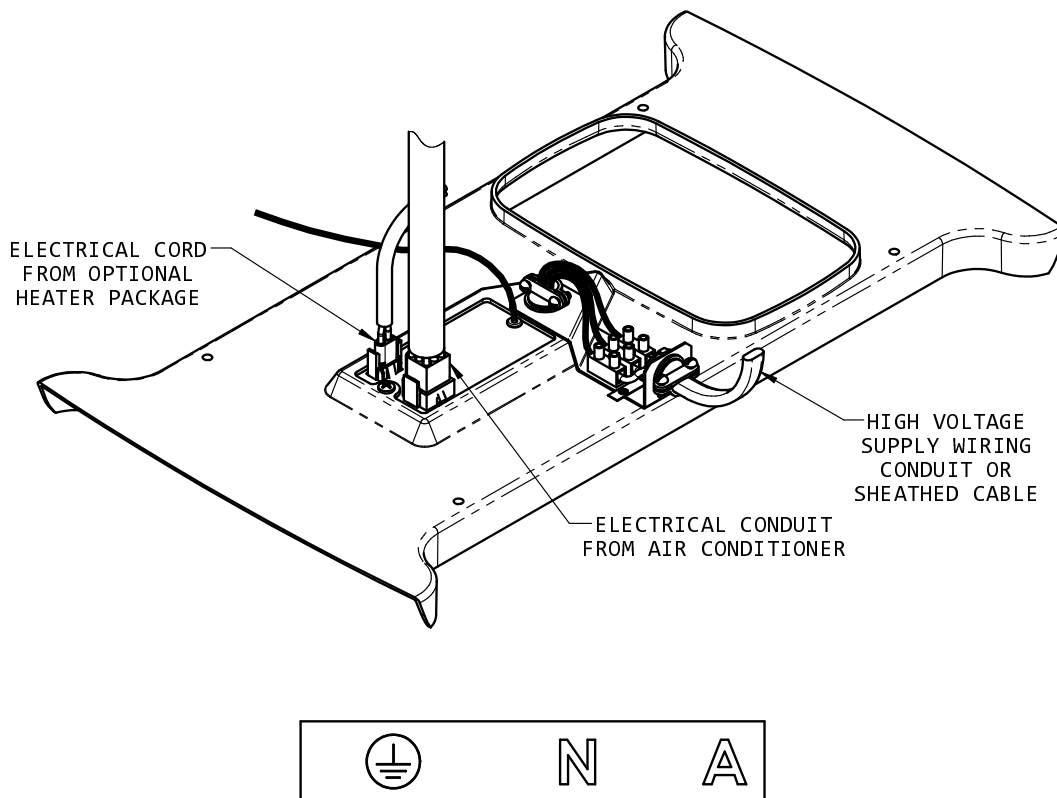

FIGURE 10
- D. Raise the ceiling assembly chute and insert the supply wiring through the cable clamp so there is sufficient supply conductor to reach the power connection strip. Secure the cable clamp over the supply wire sheath so that no movement is possible (See Figure 10).
- E. Connect the supply power conductors to the “A” and “N” lugs on the connection strip. **IMPORTANT** – If power is from one “Hot” and one “Neutral” conductor, connect the neutral to “N”. Connect the ground conductor to the “ground” lug (See Figure 10).
- F. Plug the air conditioner electrical conduit into the 9 position receptacle as shown in Figure 10.
- G. If the optional heater accessory package is being installed, remove the cover from the 2 position receptacle and plug the heater cord into receptacle as shown in Figure 10.